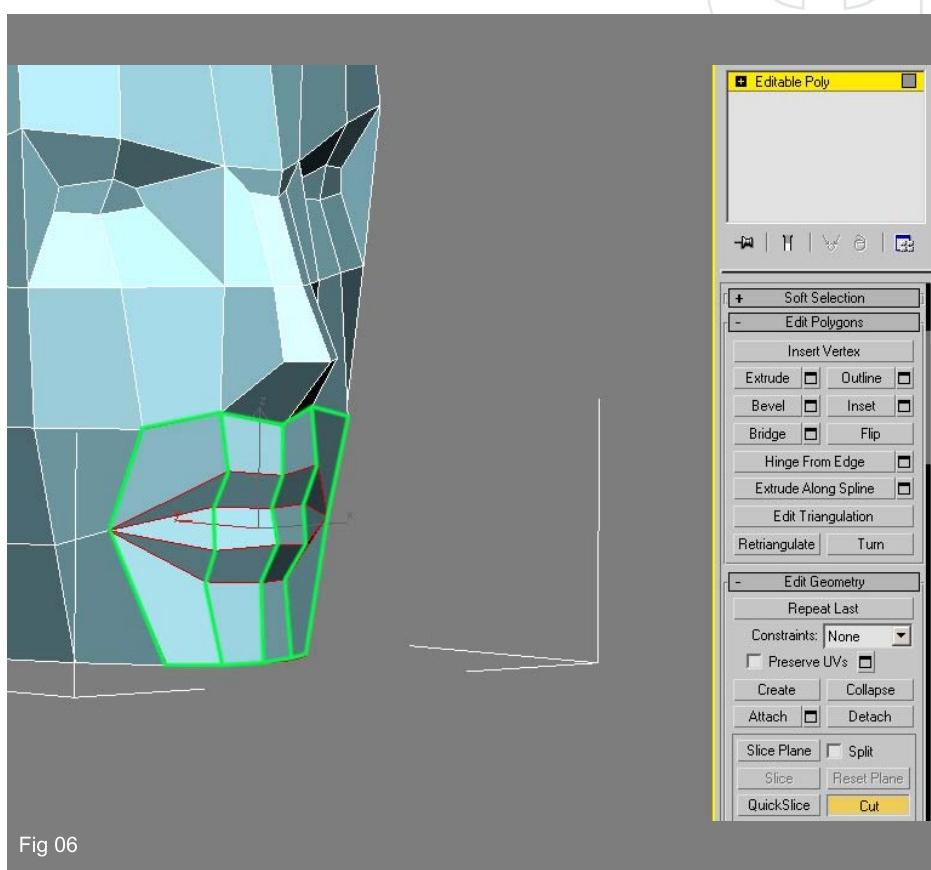

Fig 06
6. With the nose and eyes underway we have just the mouth left to make a start on. Select the four poly's highlighted in green in Fig06 and then use the "Cut" tool on the right to make four horizontal cuts (shown in red) emanating from a single vert. Once this is done simply move the new verts into positions to form a mouth shape as seen in the image.